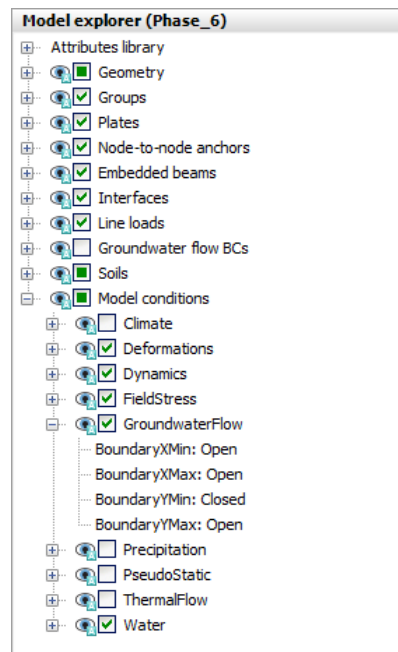

Figure 7-14: The GroundwaterFlow subtree under the Model conditions in the Model explorer
- 9 In the **Model explorer** expand **Model conditions** > **GroundwaterFlow**. The default boundary conditions are valid which is shown in Figure 7-14 \(p. 134\).